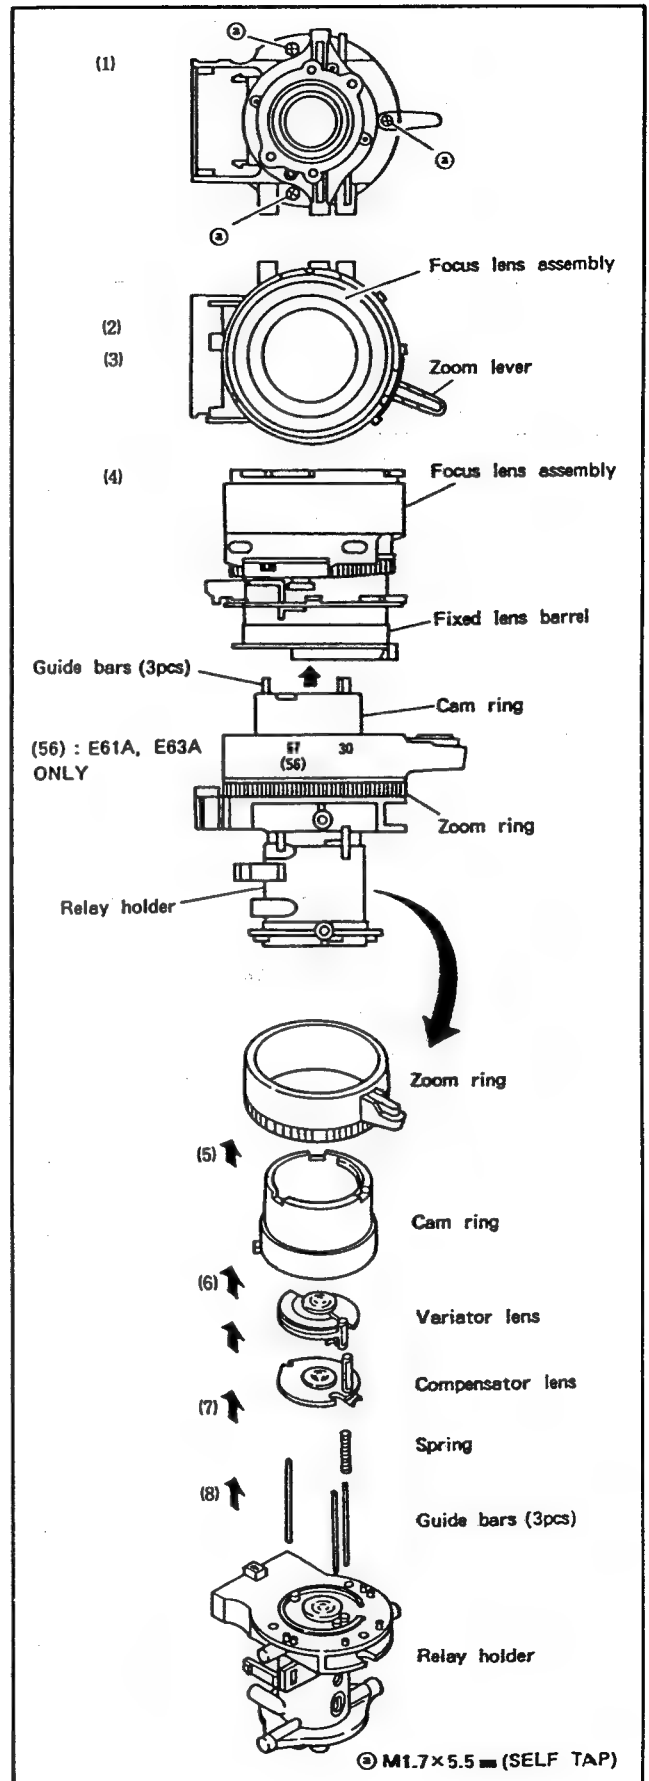

Fig. II-25
- (1) Remove three screw (a)s.
- (2) While steadying the zoom section, turn the focus lens assembly up.
- (3) Set the zoom lever on the position as shown in the Fig. II-25.
- (4) While steadying the zoom ring, dismount the focus lens assembly and the fixed lens barrel upward.
- (5) Remove the zoom ring.
- (6) Remove the cam ring.
- (7) Remove the variator and the compensator lenses.
- (8) Remove the spring and three guide bars.